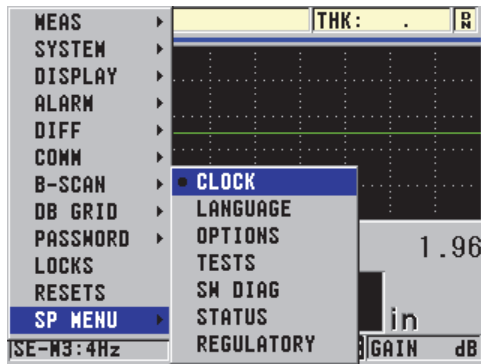

Figure 4-2 The SP MENU screen
2. In the SP MENU (see Figure 4-2 on page 45), select CLOCK.